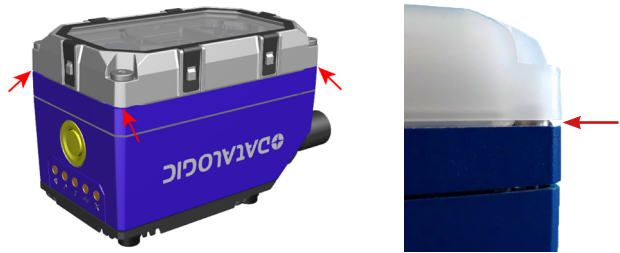
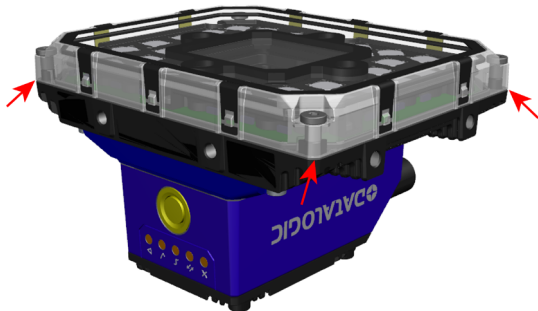

Fig. 1 - Removing the cover (14 LEDs model)
Fig. 3 - Removing the cover (36 LEDs model)
2. Remove the cover. The cover will remain attached to the body because of the gasket. To unmount it properly, it is recommended to gently lever the cover from its corners using a flat blade screwdriver between the cover and the body of the reader. See Fig. 1 and Fig. 3.